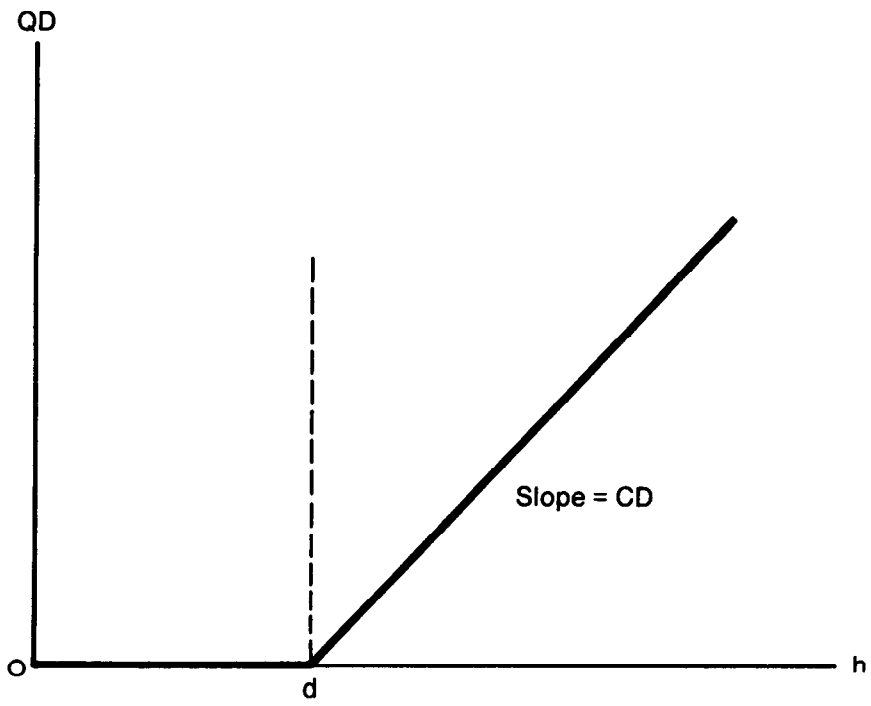

Figure 41.—Plot of flow, QD , into a drain as a function of head, h , in a cell where the elevation of the drain is d and the conductance is CD .
Figure 41 shows a graph of QD vs. $h_{i,j,k}$ as defined by equations (69) and (70); the function is similar to that for flow between a surface stream and the aquifer (figure 36) except that flow into the aquifer is excluded, and positive values of QD have been taken as corresponding to flow into the drain. With proper selection of coefficients, the River Package could in fact be utilized to perform the functions of the Drain Package.